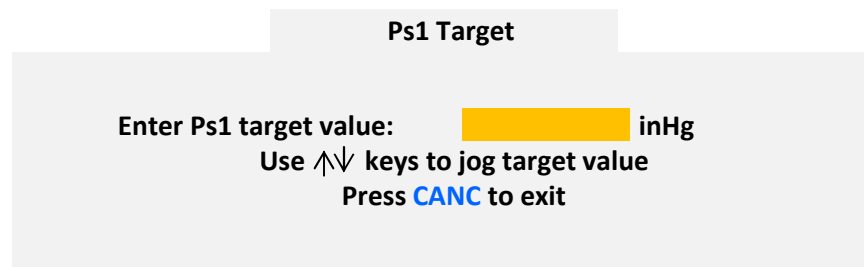
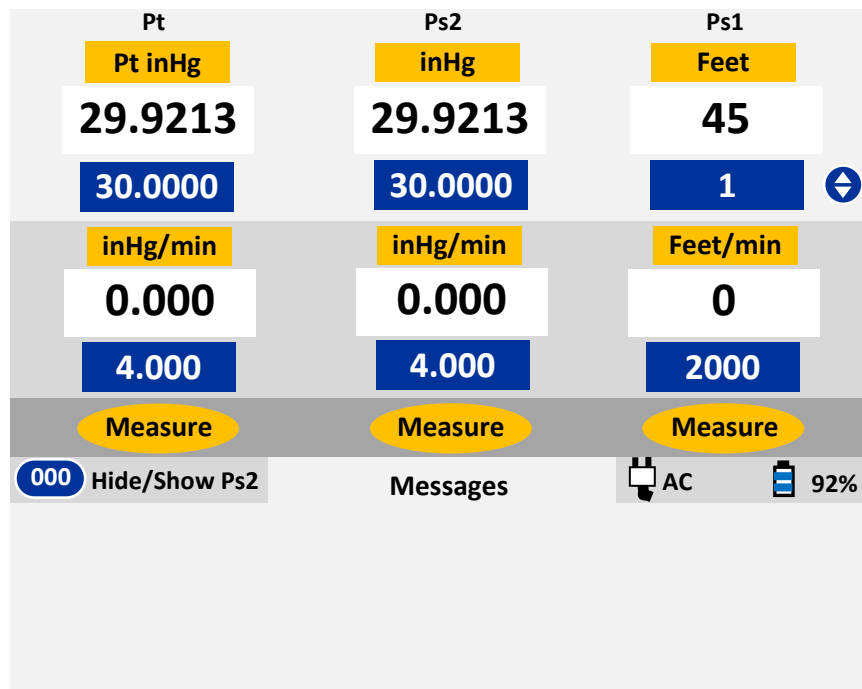

Figure 3.13 : Ps1 Target value
Figure 3.14 : Jog the Ps1 Target value
The Ps1 Target value can be changed only if the key# symbol (6) is displayed to the right of the Ps1 Target value field. Press key '6' on the keypad and the Lower section of the display will appear as shown in Figure 3.13 below.
If the Target value needs to be changed in small increments, instead of entering a value, the arrow keys may be used to Jog the Target value up or down. If the current Ps1 Target value is 0 Feet, and the Lower screen appears as in Figure 3.13 above, pressing the **Up-Arrow** key will make the screen appear as shown in Figure 3.14 below.
If the Rate Target value needs to be changed in small increments, instead of entering a value, the arrow keys may be used to Jog the Rate Target value up or down. If the current Ps1 Rate Target value is 2000 Feet/min, and the Lower screen appears as in Figure 3.13 above, pressing the **Up-Arrow** key will make the screen appear as shown in Figure 3.14 below.